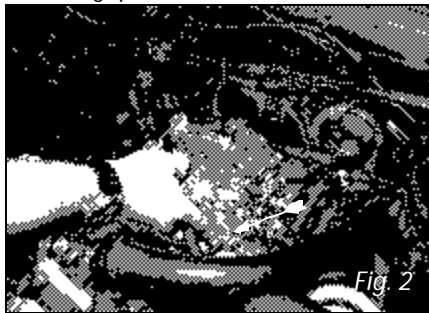

Fig. 2
1. Determine if the distributor vacuum port is timed (no vacuum at idle) or full (vacuum present at idle). With the engine fully warmed up and idling, pull the vacuum hose off of the carb and "feel" for vacuum by putting your finger on the vacuum port (See Fig. 2). If your distributor has timed vacuum advance, hook the vacuum hose from the distributor up to the passenger side vacuum port on the carburetor. If it has full vacuum advance, hook it up to the driver's side port.